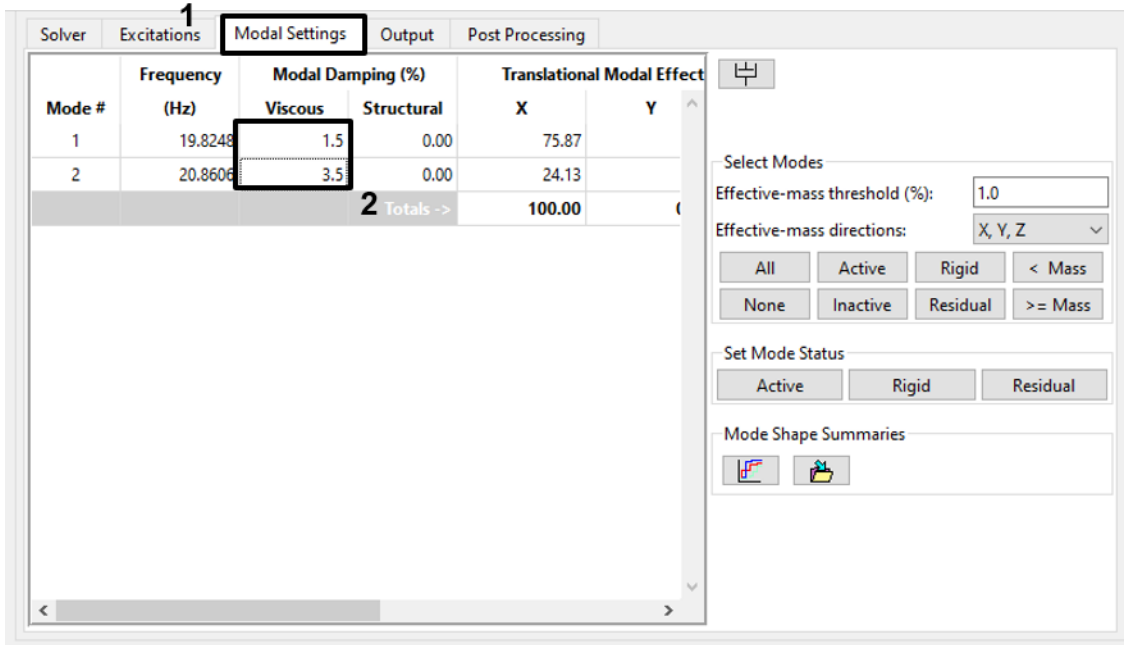

Figure 4-20. With only two modes, you can assign damping directly in the damping table.
4. On the *Modal Settings* tab, assign 1.5% damping to mode 1 and 3.5% damping to mode 2. Double-click in the *Viscous* cell under *Modal Damping (%)* for each mode and entering the proper value (Figure 4-20).